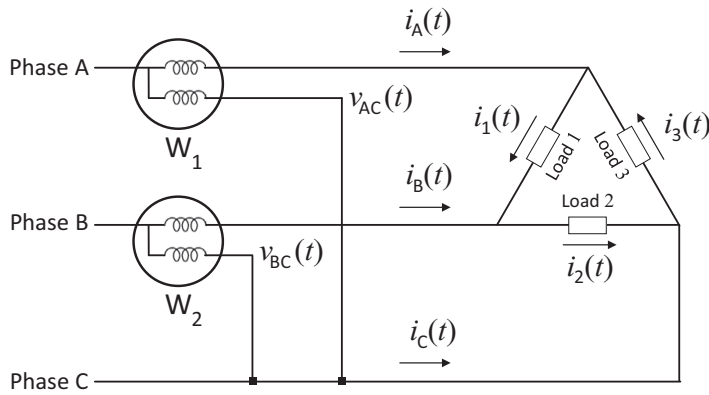

Figure 5.27 The three-phase three-wire delta topology in Exercise 5.21.
- 5.21** Consider the three-phase load in Figure 5.27. This load has a three-wire delta connection configuration topology. Explain why the sum of the instantaneous power usage that is measured by wattmeters W_1 and W_2 is equal to the total instantaneous power usage across all three phases.